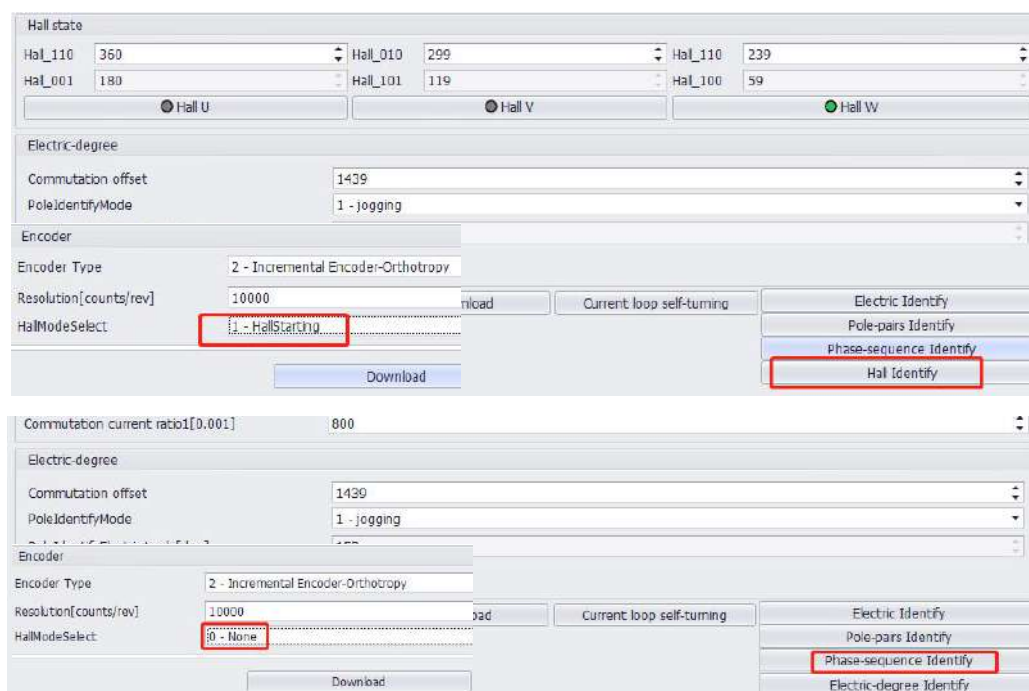

Figure 4-21 Hall identify
④Hall Identify
1) Hall Identify steps are as follows: Hall sensor is not used to do commutation, other values when doing Hall detection. To turn on Hall recognition, you need to select the encoder in the motor and feedback to use Hall sensor. As shown in Figure 4-21.